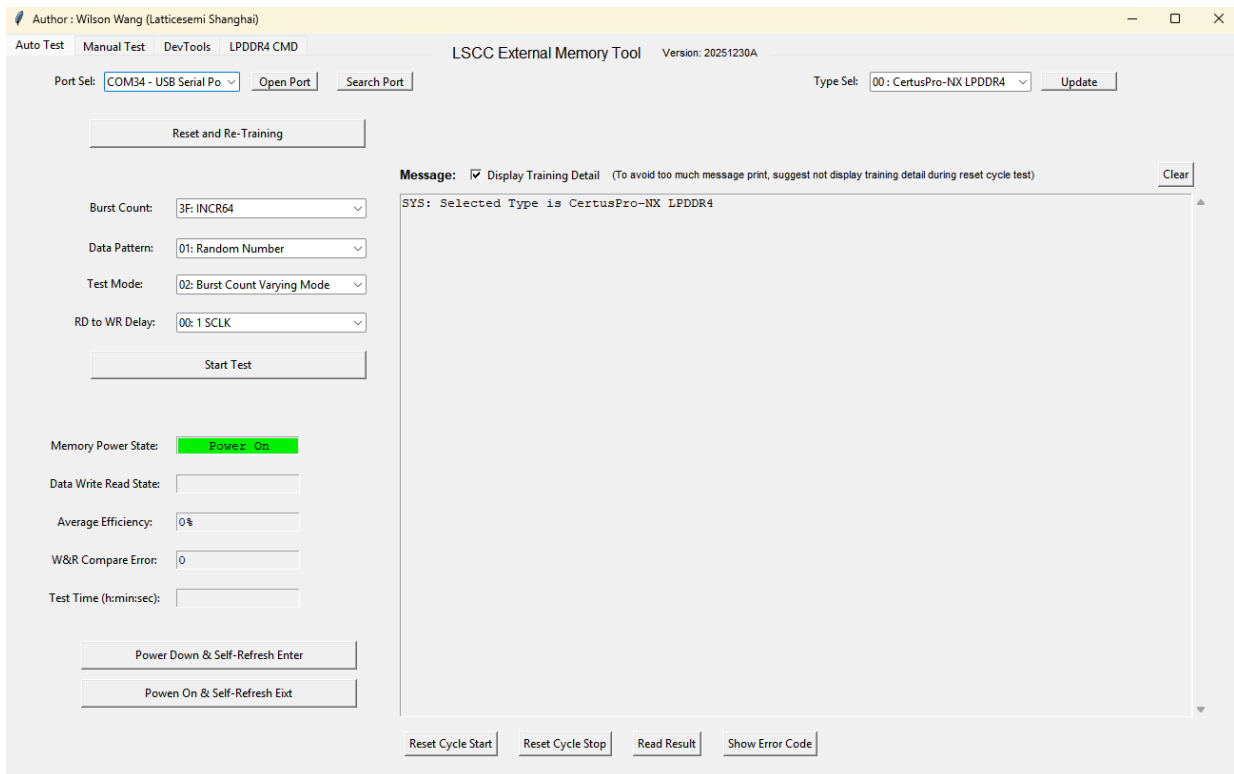

Figure 7.4 Auto Test Mode
- 1) Open UART port, if use USB to UART through FTDI chip, usually there are two COM ports and the smaller number COM sometimes used for JTAG; larger number COM used for UART. As shown in Figure 7.4 select COM4 and click Open Port